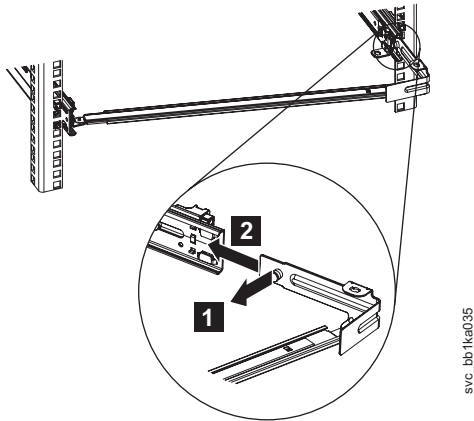

Figure 18. Attaching the free end of the SAN Volume Controller 2145-CF8 support arm
3. To attach the other side of the support arm to the backside of the slide rail, push the blue latch on the cable-support-arm stop bracket, as shown by **1** in Figure 18 on page 32, to slide the bracket **2** into the slide rail.